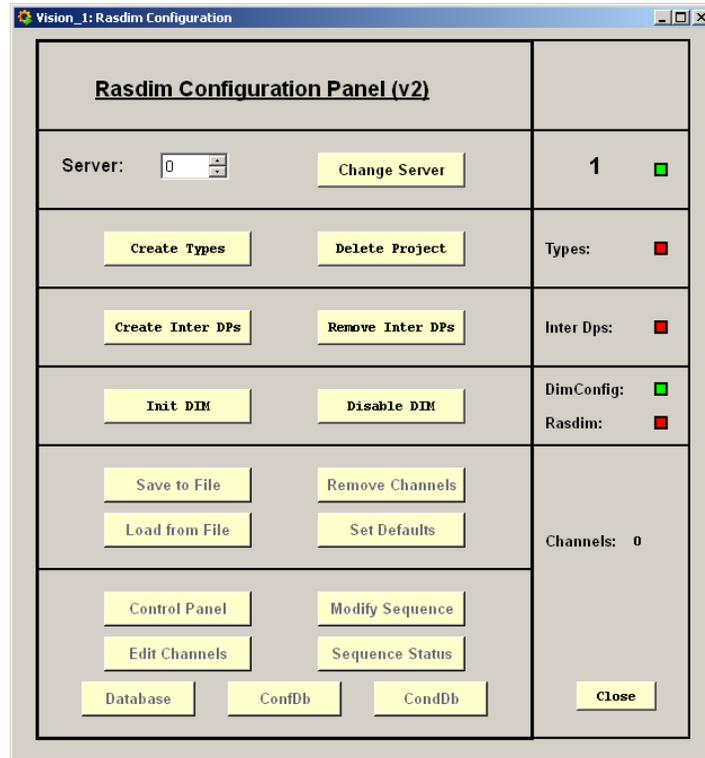

Figure 2.15: Initial configuration panel
12. Start the project and start manually the user interface manager RDConfig. Its panel should look as in Figure 2.15.